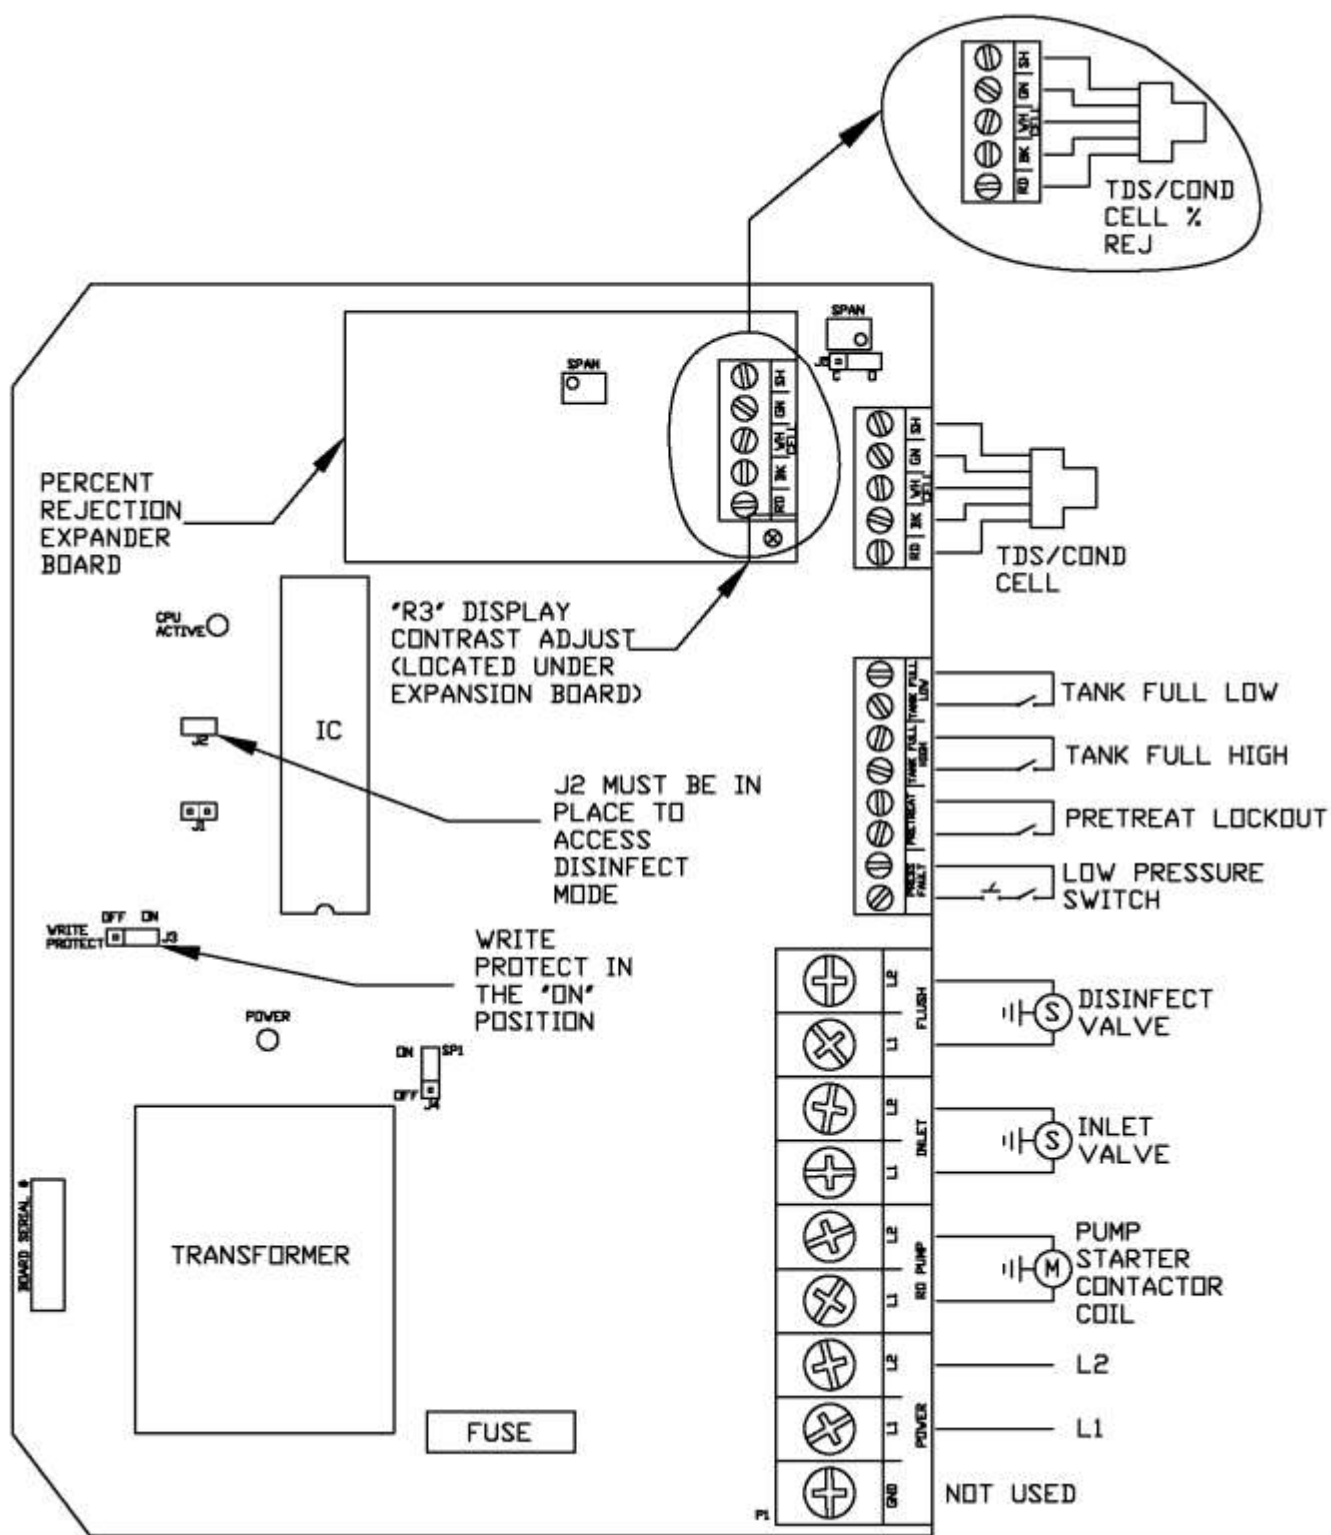

FIGURE 6.2
NOTE: The J2 jumper must already be installed to make this an active mode. Ref. Fig. 6.2.
Refer to Figure 6.2 for adjustment location (SPAN). To calibrate the Conductivity, place the cell in a known standard solution. Adjust the span adjustment for the correct reading. If the cell is installed, the unit can be calibrated by taking a sample from the PRODUCT TEST PORT and testing it with a known, calibrated meter. Adjust the span control until the reading matches the meter.
1. Refer to Figure 6.1 for the location of the keys used to display or change the Setpoints and Figure 6.2 for the location of the write protect jumper, J3. For the unit to be able to accept a change in a Setpoint, the shorting jumper must be in the WRITE PROTECT OFF position (center and left pins).